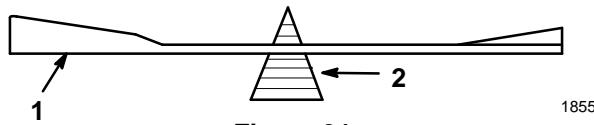

Figure 31
2. Check the balance of the blade by putting it on a blade balancer (Fig. 31). If the blade stays in a horizontal position, the blade is balanced and can be used. If the blade is not balanced, file some metal off the back side of the blade. Repeat this procedure until the blade is balanced.